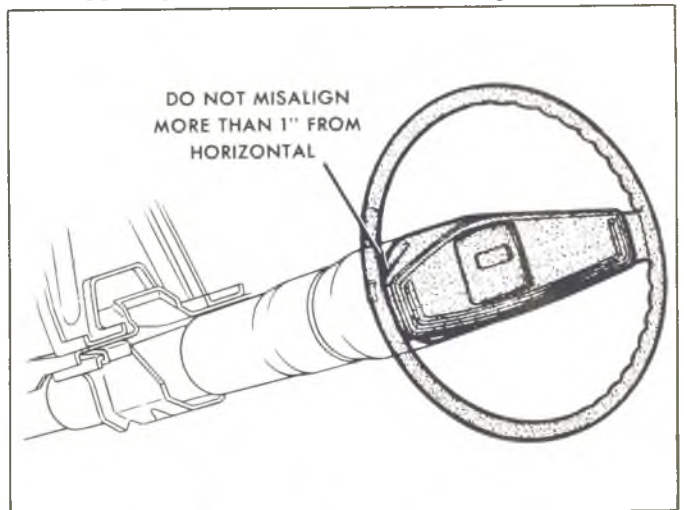

Fig. 35—Steering Wheel Alignment
2. Note steering wheel position. If off more than 1 inch from center (fig. 35), remove steering wheel as outlined under "Steering Wheel - Removal", center high point on gear, reposition and reinstall the wheel.